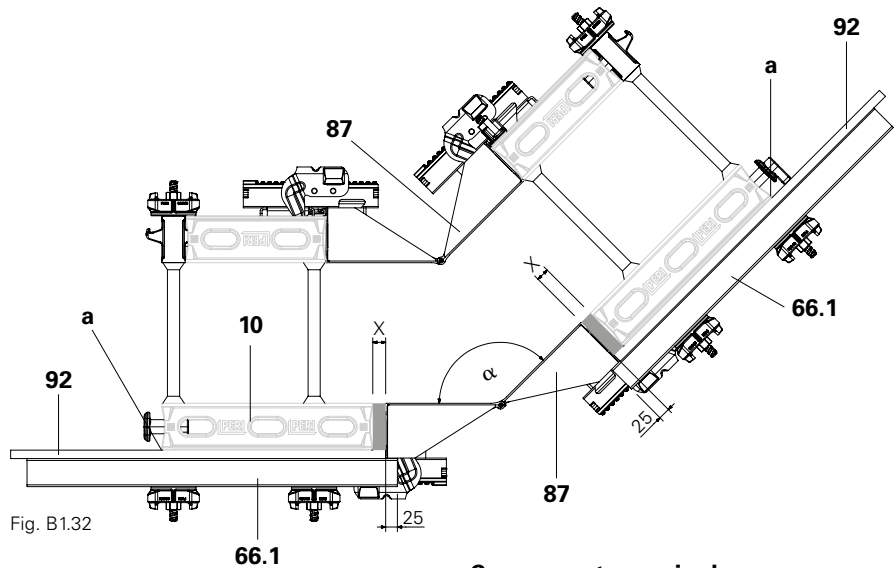

Fig. B1.32
The 18 mm multi-layer plywood sheeting Finply (92) must be installed beneath the LWR 80 (80.1) walers in order to provide both the DOMINO DGE articulated corner (87) and the DUO DP panels with the correct support. (Fig. B1.32)